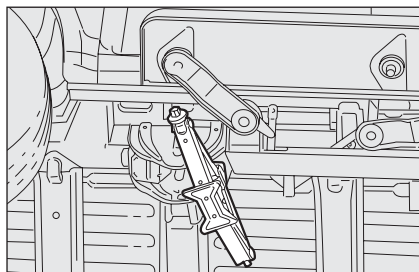

fig. 4
- For short wheelbase versions with retractable footboard, the jack shall be set in the point shown in **fig. 4** and shall be suitably directed (45°) to avoid interference with the retractable footboard;